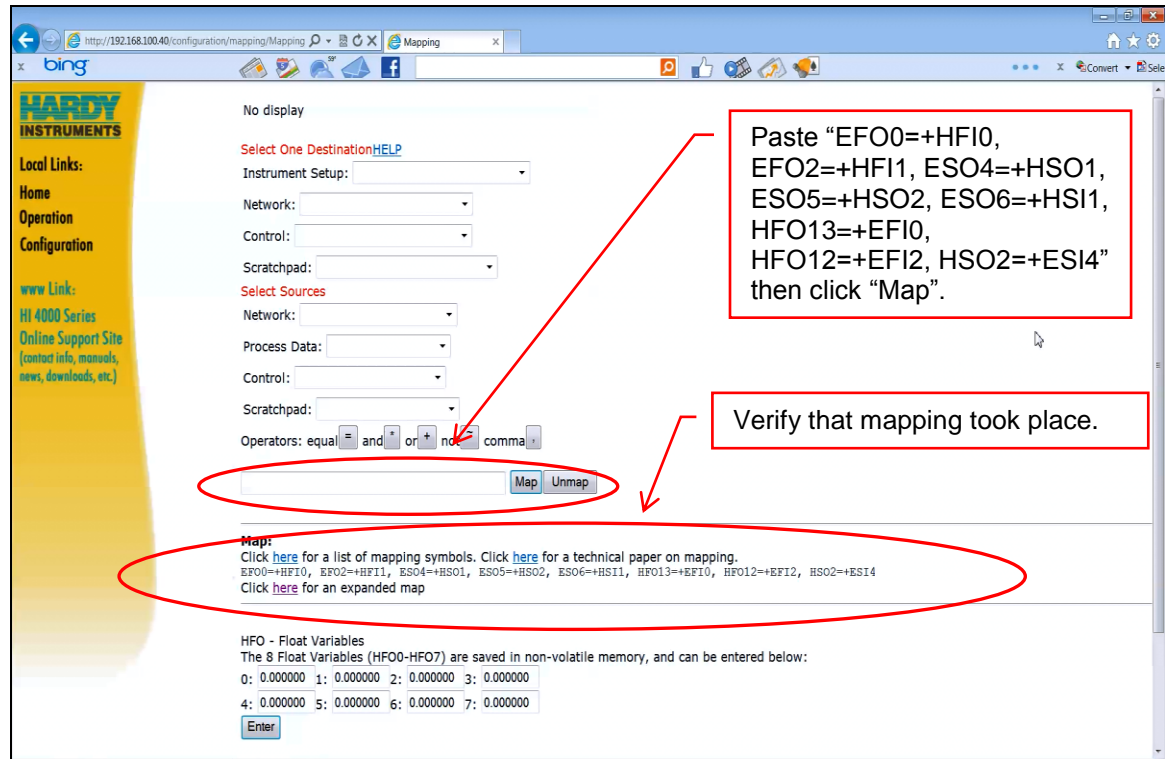

Figure PH011-8 – Mapping Screen
1. Copy and paste the following equation into the mapping field shown in Figure PH011-8 below: